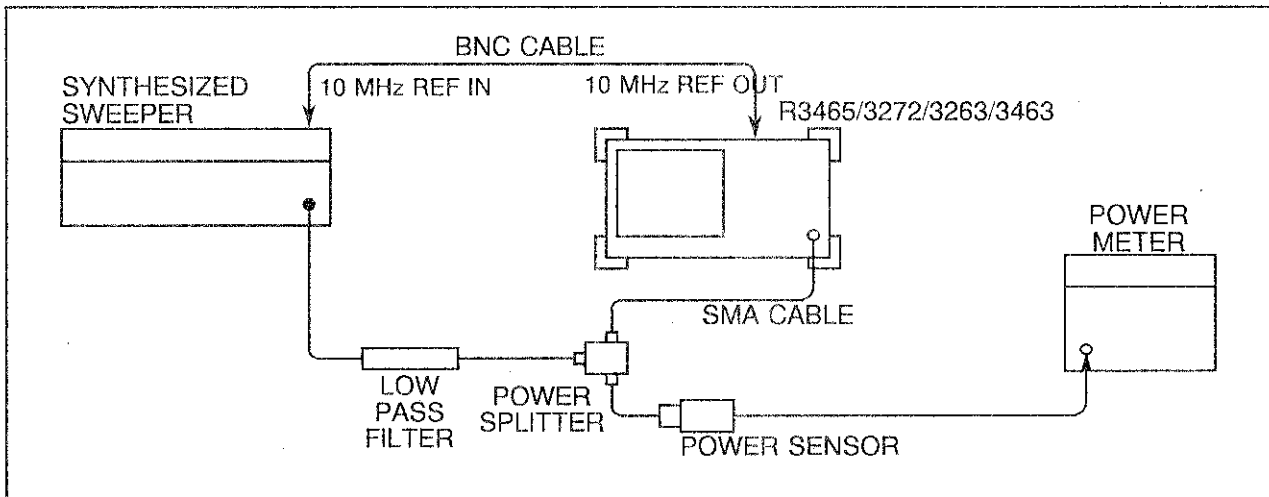

Figure 1-10 Second Harmonic Distortion Test Setup
- (1) Zero and calibrate the power meter. Rotate the CAL FACTOR switch to the power sensor's 1.4 GHz calibration factor.
- (2) Connect the equipment as shown in Figure 1-10.
- (3) Press the INSTR PRESET key on the SG1. Set the SG1 controls as follows:
(13) Connect the equipment as shown in Figure 1-10.
(14) Rotate the CAL FACTOR switch to the power sensor's 1.9 GHz calibration factor.
(15) Set the SG1 key for a 0 dBm \pm 0.1 dB reading on the power meter.
(16) On the R3465/3272, press , , , and keys.